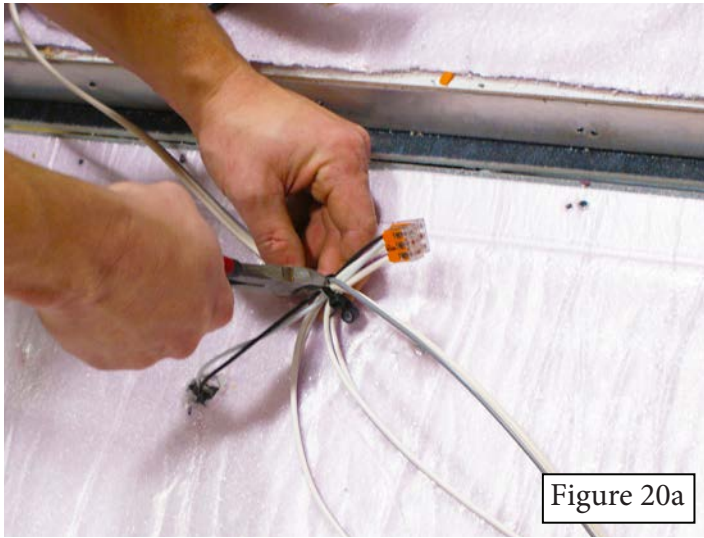
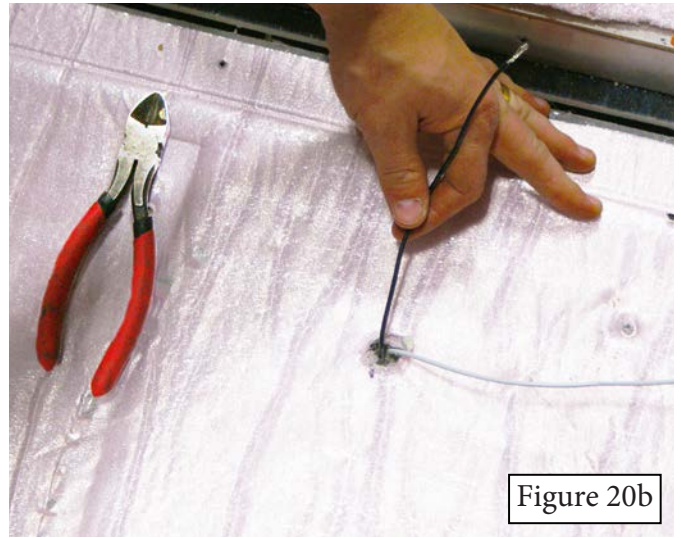

Figure 20a
Figure 20b
21. Use wire cutters to cut the securing zip tie and remove the wire clamps for the under slide lights (Figure 20a) and disconnect the wires (Figure 20b).